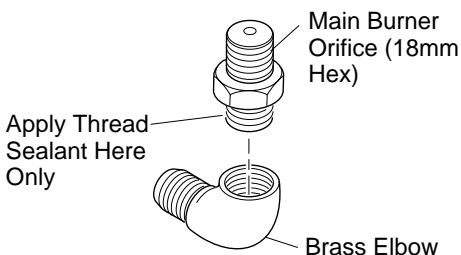

Figure 5 - Removing/Replacing Main Burner Orifice
4. Remove existing main burner orifice from brass elbow and replace with main burner orifice supplied with the fireplace. **Note:** The new main burner orifice for propane/LP will have the number 132 (Model MBDV37 only) or the number 139 (Model MBDV41 only) stamped on it for identification purposes. Apply a small amount of thread sealant to the orifice before tightening (see Figure 5, page 2). Sealant must be resistant to Propane/LP gas.
- Remove the burner by loosening the two 5/16" hex mounting screws (see Figure 5). Lift burner up and out.